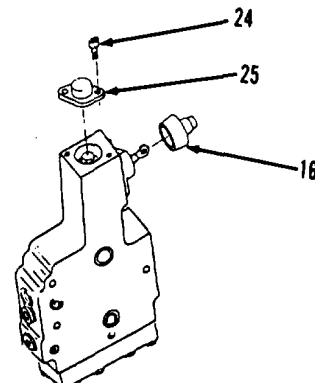

Figure 10-100.
1. Install lock (25) and two bolts (24, Figure 10-100).
2. Install boot (16).